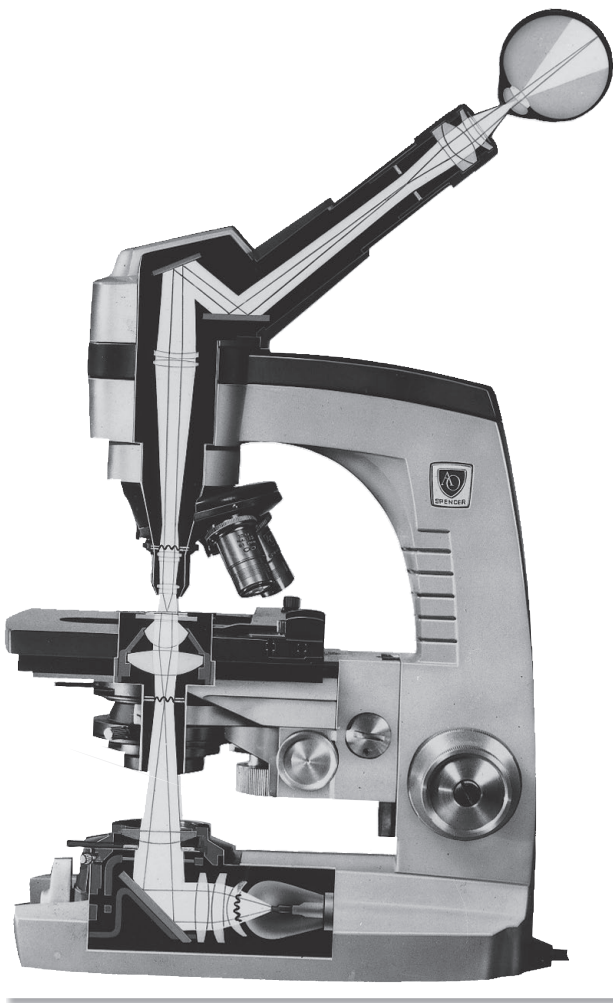

Figure 1.3 The light pathway of a microscope.
**Lens Systems** All compound microscopes have three lens systems: the oculars, the objectives, and the condenser. Figure 1.3 illustrates the light path through these three systems.